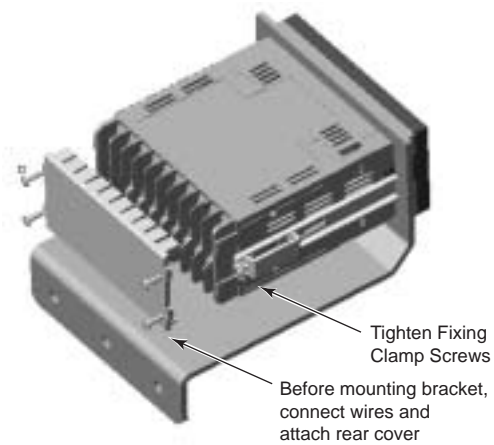

Figure D-2: Completing the Installation
3. Tighten the fixing clamp screws on each fixing clamp. Make sure the tabs are snug against the bracket frame (Figure D-2). Do not overtighten.